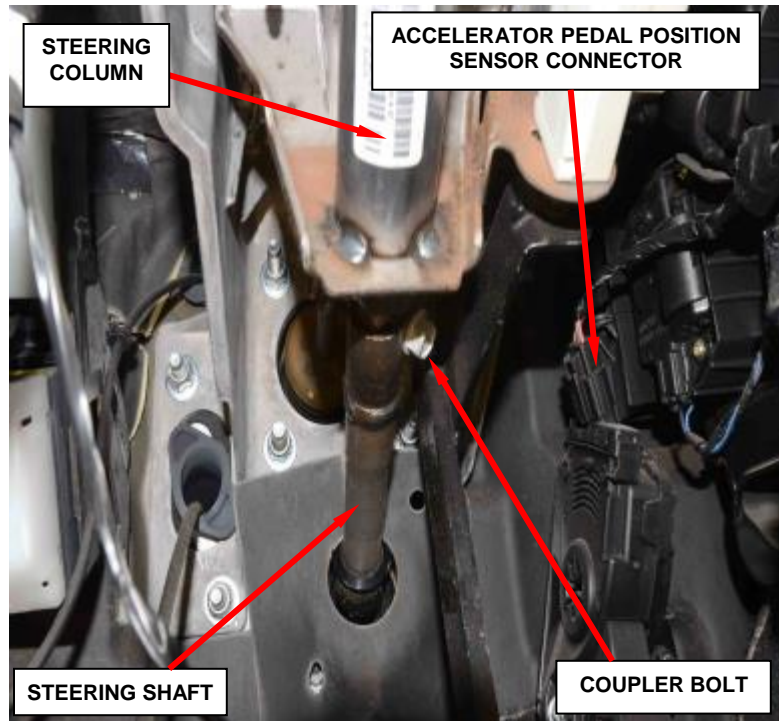

Figure 66 – Steering Shaft Coupler
- a. Disconnect the accelerator position sensor electrical connector (Figure 66).
14. Remove and **discard** the upper steering shaft coupler bolt from the column (Figure 66).